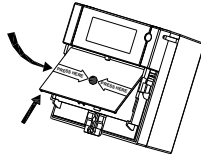

Fig. 6: Replacing the operating element
- Replace the operating element (see Fig. 6)